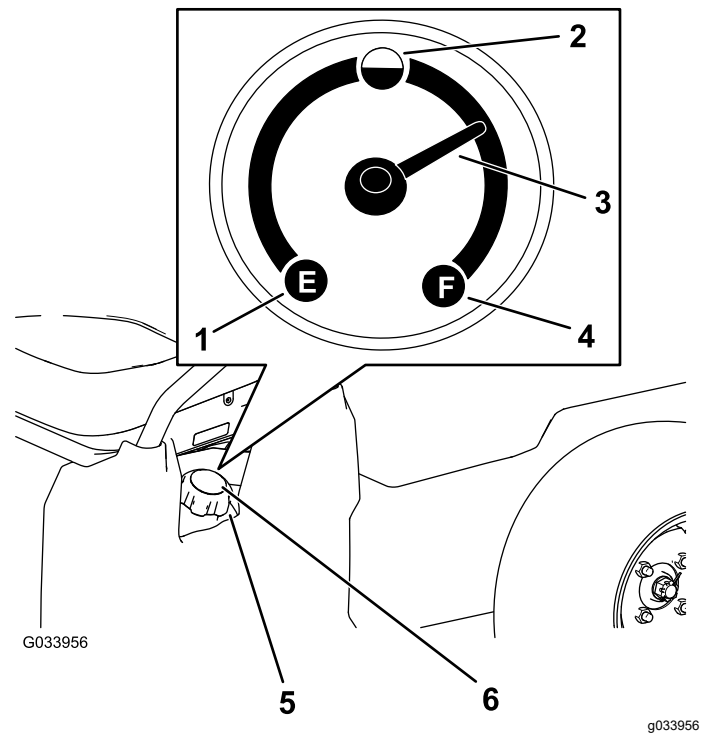

Figure 14
- Clean the area around the fuel-tank cap (Figure 14).